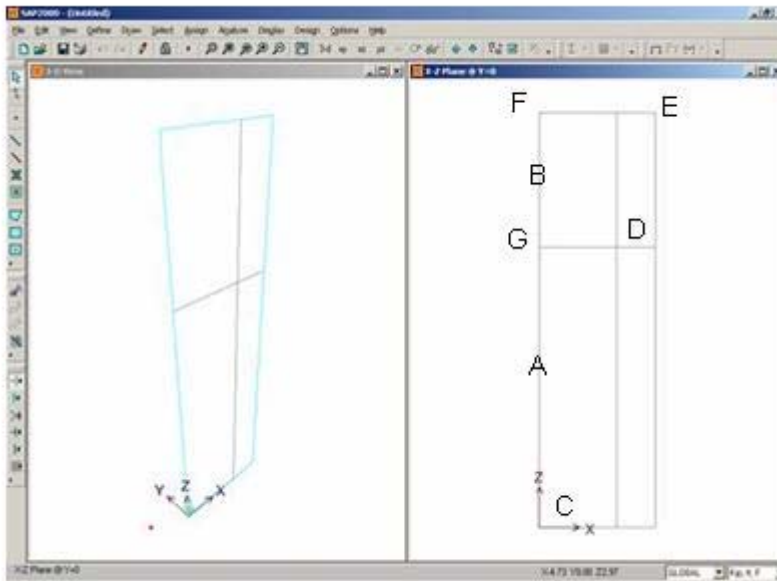

Figure C-2 Initial Grid Layout in X-Z Plane
10. Click on the grid line at the point labeled "A" in Figure C-2 to enter a frame object.
11. Click on the grid line at the point labeled “B” in Figure C-2 to enter another frame object.
13. Click on the points labeled “C,” “D,” and “E” in Figure C-2, in that order, and then press the Enter key on the keyboard to draw two more frame objects.
14. Click on the point labeled “F” and then double click the point labeled “E” in Figure C-2 to draw the next frame object.
Note: You could have single-clicked the point labeled “E” in Figure C-2 and then pressed the Enter key on the keyboard to finish drawing the frame object.
15. Click on the point labeled “G” and then double click the point labeled “D” in Figure C-2 to draw the next frame object.
16. Click on the point labeled “D” and then double click the point labeled “F” in Figure C-2 to draw the next frame object.